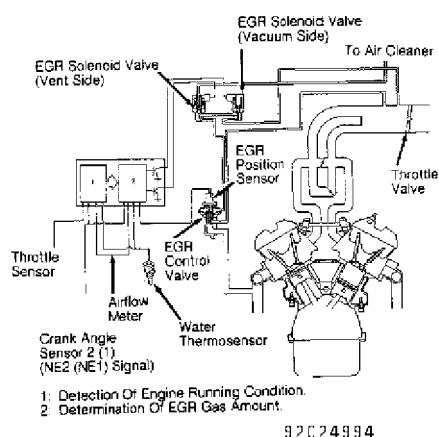

Fig. 61: EGR System Component ID (MX-3 DOHC, MX-6 2.5L & 626 2.5L)
3) Disconnect EGR solenoid valve (vacuum side) electrical connector. Apply 12 volts and a ground to solenoid valve. Ensure engine runs rough or stalls at idle. Test EGR components as necessary. See Fig. 61 or 63.